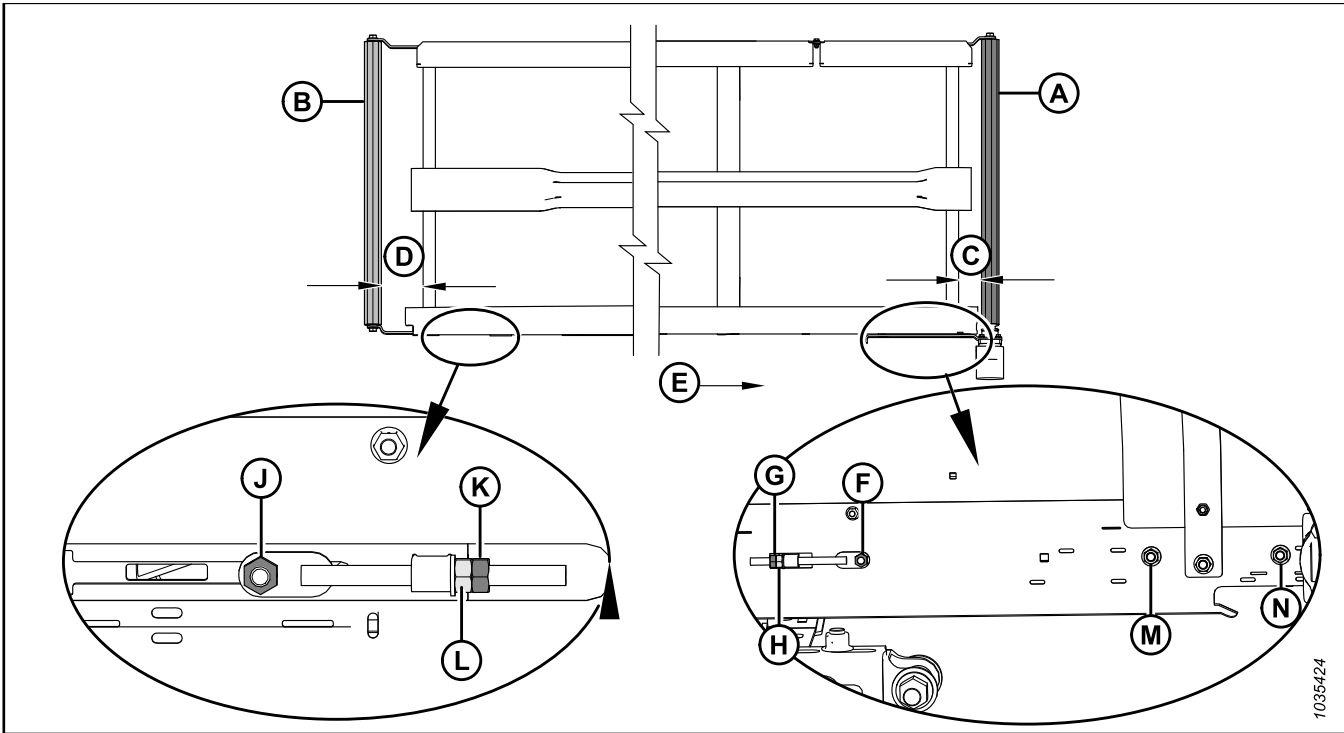

Figure 8.1: Draper Tracking Adjustments – Left Draper
2. Adjust drive roller (A) to change **C** (refer to Table 8.1, page 202 and Figure 8.1, page 202) as follows:
- a. Loosen nuts (F), (M), and (N), and jam nut (G).
- b. Turn adjuster nut (H).
- c. Tighten nuts (F), (M), and (N), and jam nut (G).
3. Adjust idler roller (B) to change **D** (refer to Table 8.1, page 202 and Figure 8.1, page 202) as follows:
- a. Loosen nut (J) and jam nut (K).
- b. Turn adjuster nut (L).